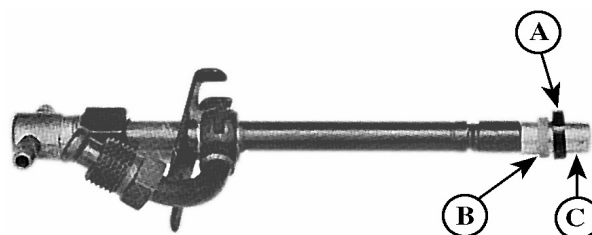

Figure 13
- Position JD258 (ROS16477) Pilot Tool (Figure 13-C) over nozzle tip. If Pilot Tool (included in cleaning kit) is not available, use a No. 16189 Nozzle Protector Cap found on every new or re-placement nozzle.
- Position a new carbon stop seal (Figure 13-B) on pilot tool. Use a new seal washer (Figure 13-A) to help slide the carbon seal into place until it seats in its groove on nozzle body.